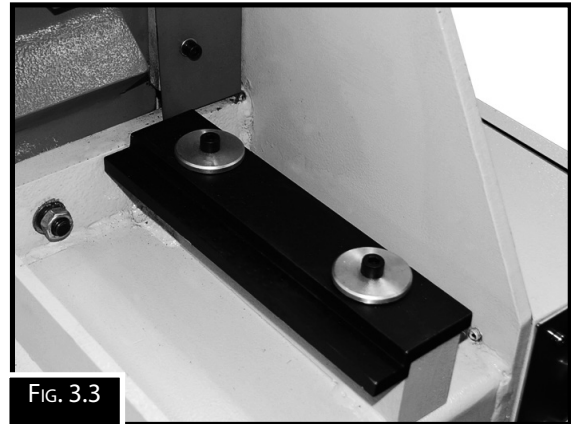

FIG. 3.3
- ❑ Place the squaring stop Fig 3.3 into position on the table top, securing into place with the bolts supplied. Check that the square stop is square to the blade.